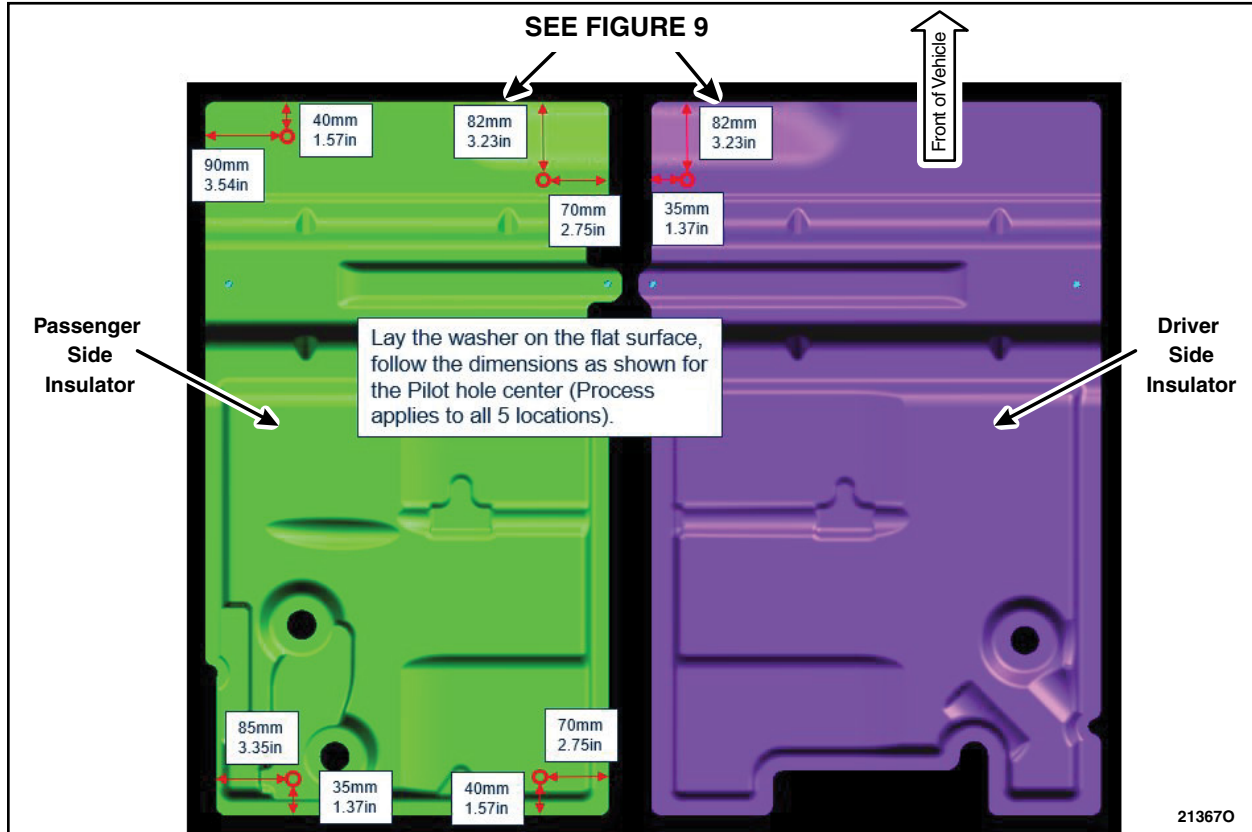

FIGURE 8
8. Measure and mark the four locations on the passenger side insulator and mark the one location on the driver side insulator. See Figures 8 and 9.